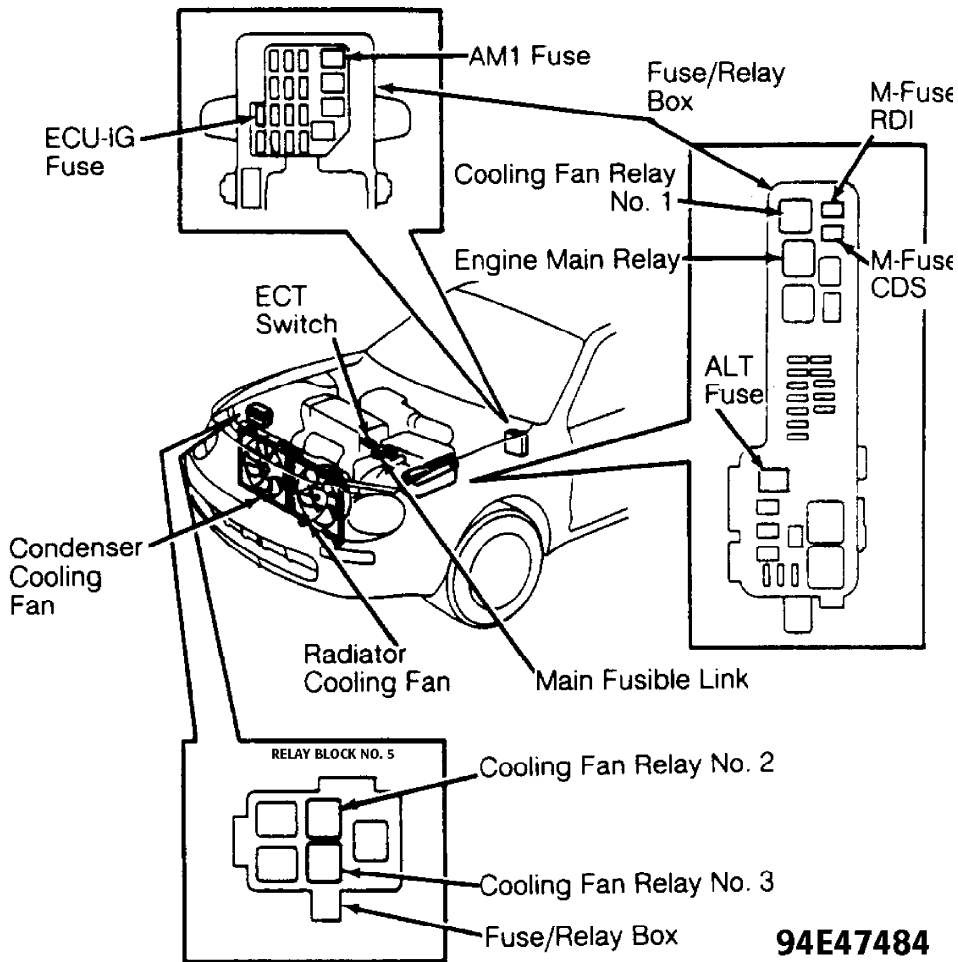

Fig. 1: Identifying Radiator Cooling Fan & Components
4) Cooling fan relay No. 1 is located in fuse/relay box. See Fig. 1. For ECT switch locations, see ECT SWITCH LOCATIONS table.
- (1) - For additional information on ECT switch locations, see Fig. 1.
- (2) - ECT switch is located in coolant housing below distributor and contains a single-pin connector with a Blue/Black wire.
1) Disconnect negative battery cable. Remove cooling fan relay No. 1 relay from fuse/relay box. See Fig. 1. Using ohmmeter, ensure continuity exists between specified terminals. See Fig. 2.
relay No. 2 relay from fuse/relay box. See Fig. 1. Using ohmmeter, ensure continuity and no continuity exists between specified terminals. See Fig. 3.
relay No. 3 relay from fuse/relay box. See Fig. 1. Using ohmmeter, ensure continuity and no continuity exists between specified terminals. See Fig. 4.
(1) - For additional information on ECT switch locations, see Fig. 1.
1) Disconnect negative battery cable. Remove engine main relay from fuse/relay box. See Fig. 1. Using ohmmeter, ensure continuity and no continuity exists between specified terminals. See Fig. 5.